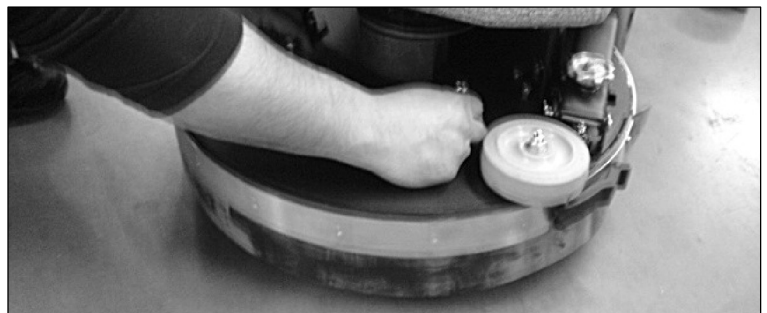

FIGURE 12.
7. WITH BRUSHES LOCKED IN PLACE, REPLACE SHROUD AND TIGHTEN THE TWO KNOBS ON TOP OF THE SHROUD. (SEE FIGURE 12.)